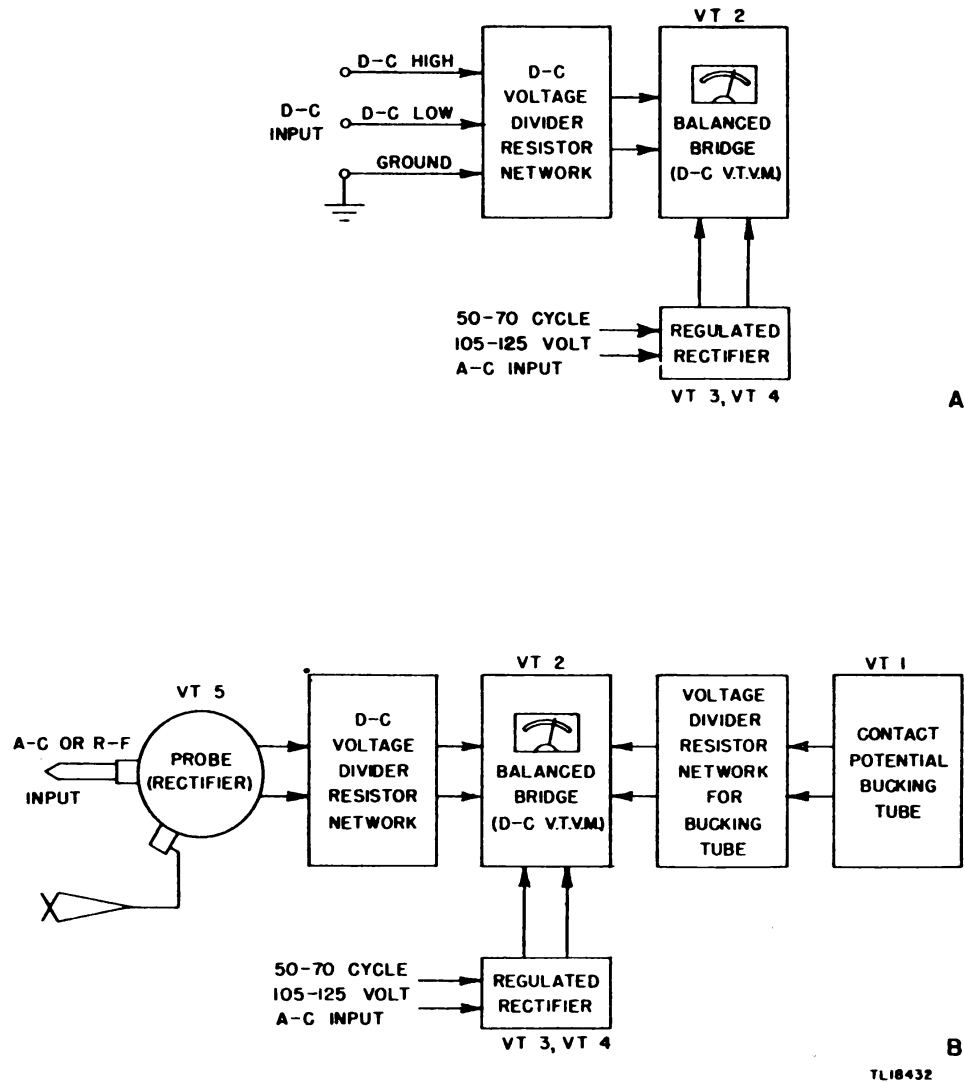

Figure 13. Vacuum tube voltmeter, block diagrams.
- (1) Block diagrams of the vtm (fig. 13).